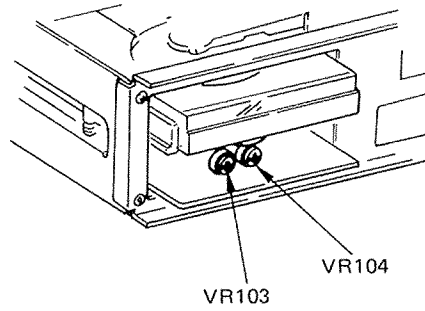

Fig. 18
3. Adjustment of motor amp. gain. (Fig. 18, 19)